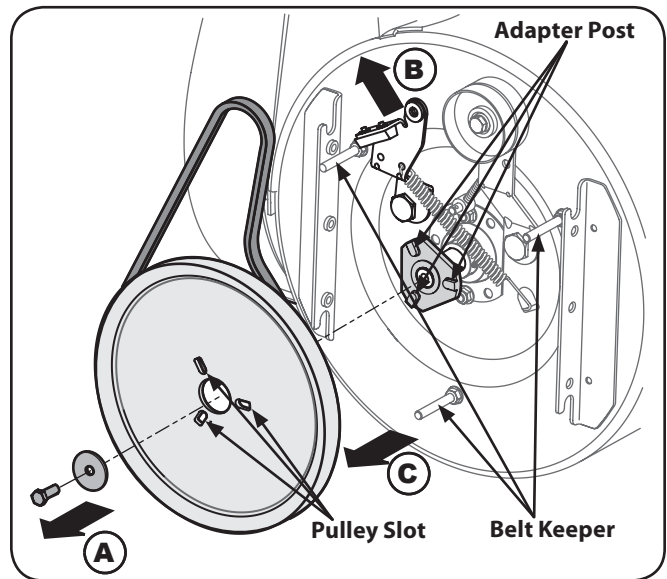

Figure 8-7
6. Block the impeller with a piece of wood to prevent from spinning and use a 1/2" wrench to remove the hex screw and flat washer from the center of the auger input shaft and auger pulley adapter. Refer to Fig. 8-7.
7. Lift the brake bracket assembly out of the pulley groove and slide the pulley assembly off the posts of the auger pulley adapter to remove the old belt. Refer to Fig. 8-7.
9. Turn the pulley as necessary to align its three slots approximately with the posts of the pulley adapter, then move the brake bracket assembly away from the input shaft. While aligning the pulley slots and adapter posts, push the auger pulley fully onto the adapter. Refer to Fig. 8-7.
NOTE: If the pulley adapter was removed with the pulley, align the splines of the pulley adapter and auger input shaft, and push the pulley and adapter onto the input shaft. Refer to Fig. 8-7.